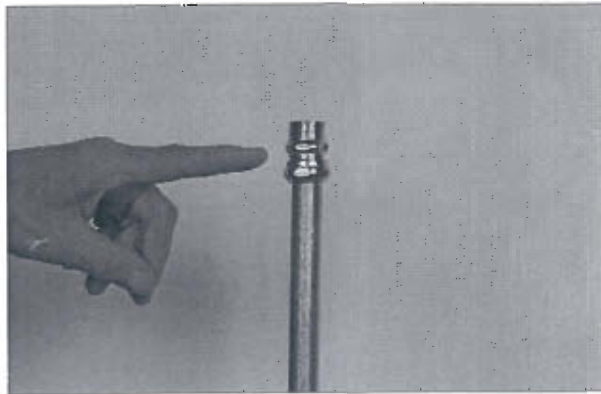

FIGURE 85
6. Remove union nut and ring. Discard ring. Do not reinstall nut at this time. See Figure 85.